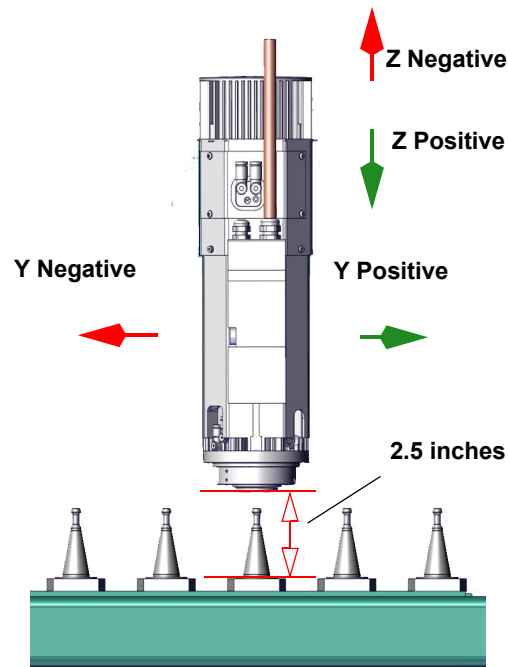

FIGURE 4-8. Axis Direction
5. When the **Cutter Head** is directly over the tool, verify alignment of the **Tool Holder** to **Tool**. Enter any offsets if needed, see Figure 4-8 above for axis direction.